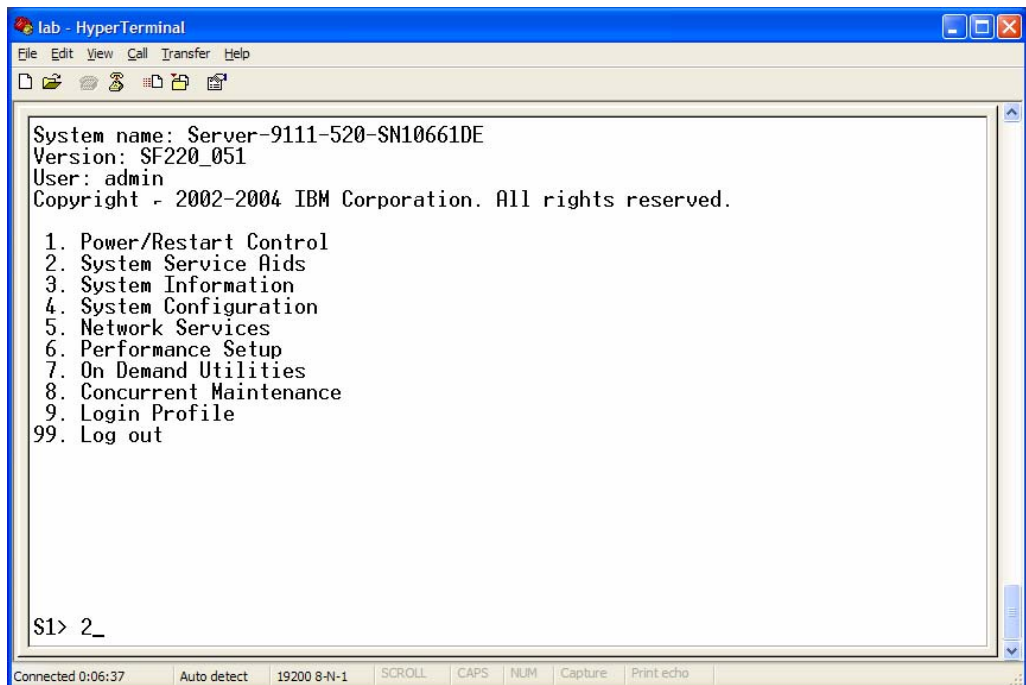

Figure 6. Selecting **System Service Aids**
- Select **System Service Aids** (see Figure 6). Then, press **Enter**.